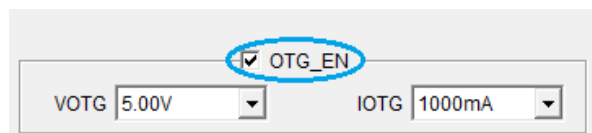

Figure 21: Enable OTG Mode
8. Enable OTG mode (see Figure 21)